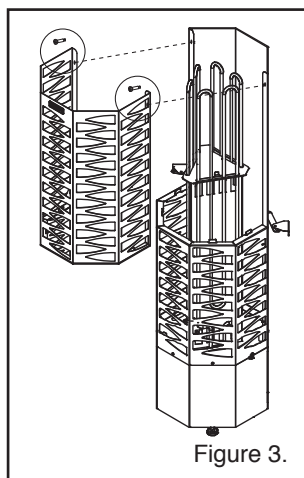

Figure 3.
- The upper jacket can be removed for piling the stones into the lower part of the heater (see Fig. 3).